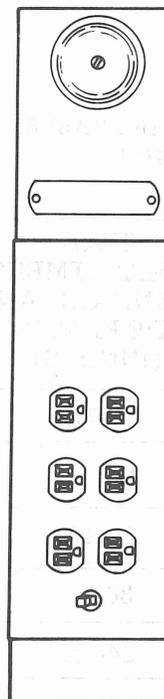

Figure 7 - Utility Strip
2.23 An electrical service unit variation utilizes a utility strip (Figure 7). The utility strip is a separate chassis containing some of the components normally contained in the main chassis. These components are the copylight transformer, motor control relay, ac receptacles, a circuit breaker instead of a fuse, and the signal bell which is normally mounted separate from the main chassis.